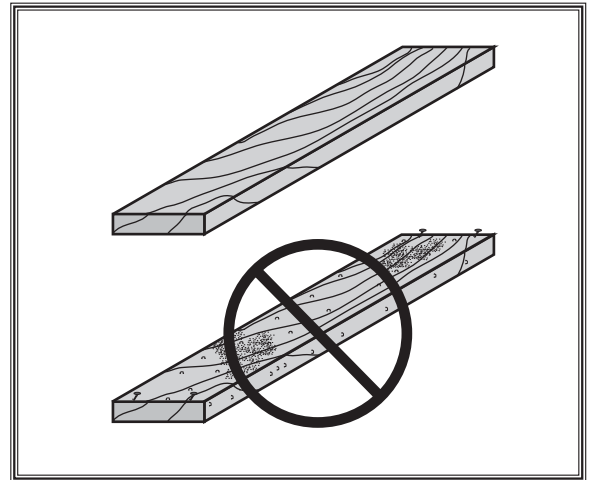

Figure 17. Good and poor lumber.
- Only use clean stock. See **Figure 17**. Scrape off all glue from joined boards before planing. Remove all dirt, nails, staples, imbedded gravel, etc. from any lumber you plan on using. A hidden nail in a workpiece will instantly damage the sharp edges of the knives. This will cause unsatisfactory results in future operations.